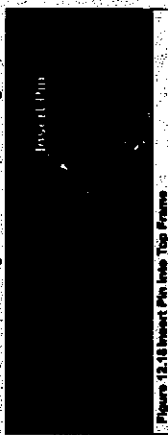

Figure 12.18 Insert Pin Into Top Frame
- Install rod in hole in glass frame top. See Figure 12.18.